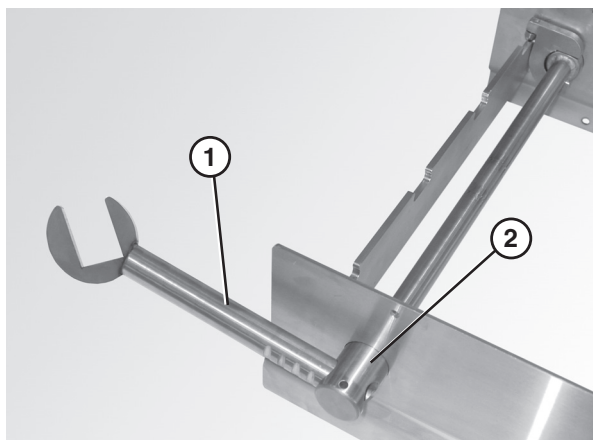

Figure 21
3. Attach the nose bar idler shaft hands (**Figure 21, item 1**) to the tip up shaft (**Figure 21, item 2**).